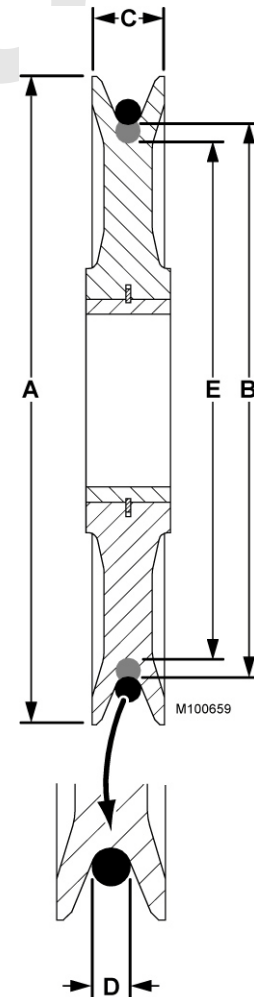

FIGURE 5-29
7. Inspect nylon sheaves for excessive measured for excessive tread diameter wear at locations E in Figure 5-29. Measure at three positions to check for uneven wear.